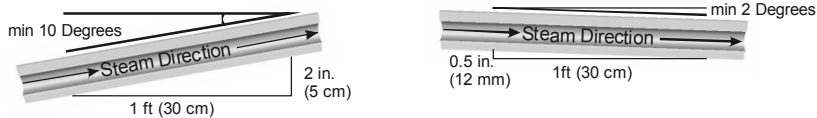

Figure 3: Minimum line sloping requirements.
- 2. For upward slopes in steam lines, minimum allowable slope is 10 degrees grade (2" vertically up per 12" horizontal run). See Figure 3.
- 3. For downward slopes in steam lines, minimum allowable slope is 2 degrees grade (0.5" vertically down per 12" horizontal run). See Figure 3.